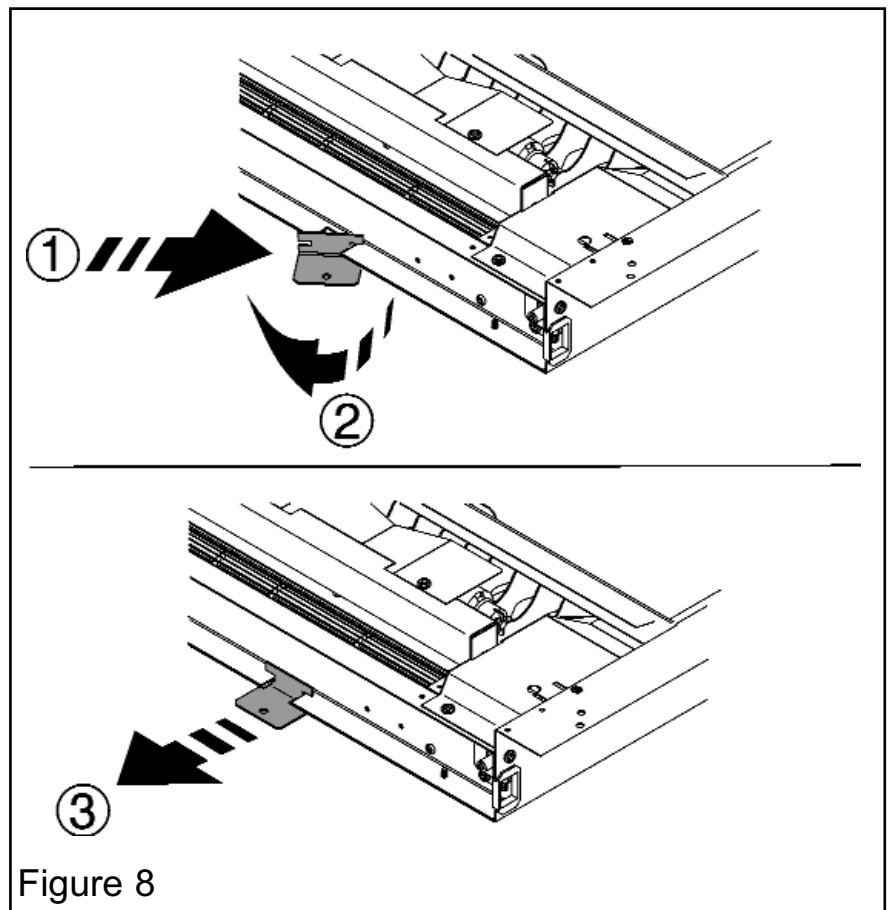

Figure 8
2. Supplied with the heater is a lower securing bracket (See figure 1). Offer one side of the bracket into the slot at the rear base of the heater (See figure 8). Swing the opposite side into place until the bracket is horizontal and pull down to hold in place (See figure 8). The bracket will remain loose but should not fall out of place.